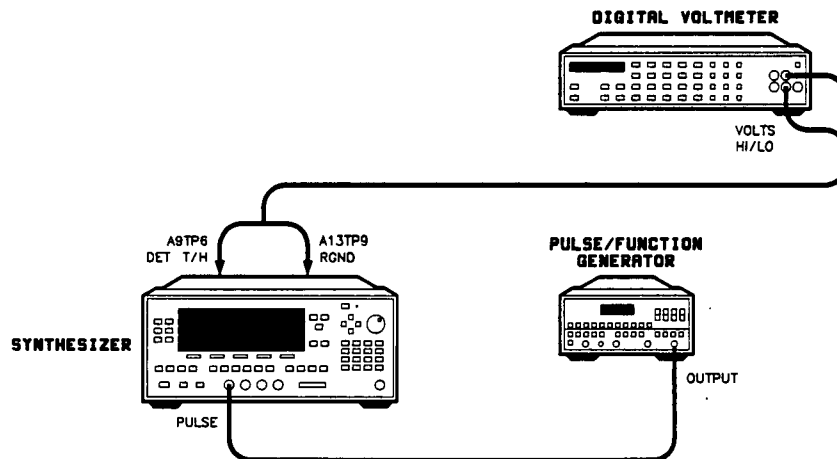

Figure 3-34. Pulse Delay Adjustment Setup
1. Preset the equipment shown in figure 3-34 and let them warm up for at least one hour.
3. Connect the equipment as shown in figure 3-34.